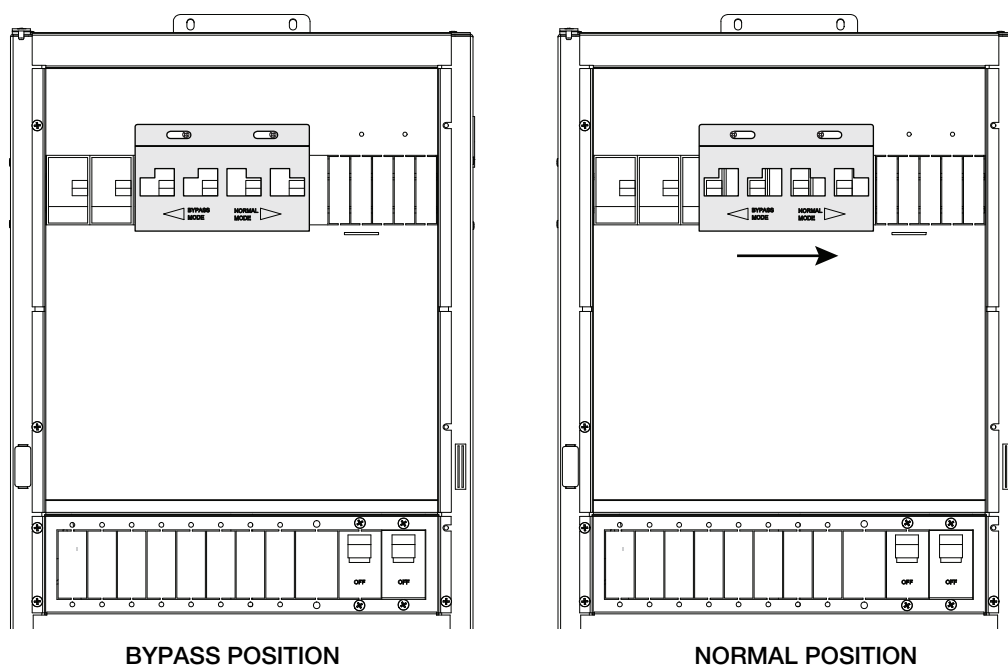

Figure 3-26 Installing the custom designed bypass interlock plate
6. Install the custom designed bypass interlock plate, as shown in Figure 3-26 on page 3-47.
2. Ensure the breakers are in the down position and place the bypass interlock plate over the breakers, as shown in Figure 3-26, and secure it in place with the hardware provided.
3. To set it in Normal position, slide the bypass plate to the right, as shown in Figure 3-26.
10. Install the custom designed bypass interlock plate, as shown in Figure 3-26 on page 3-47.